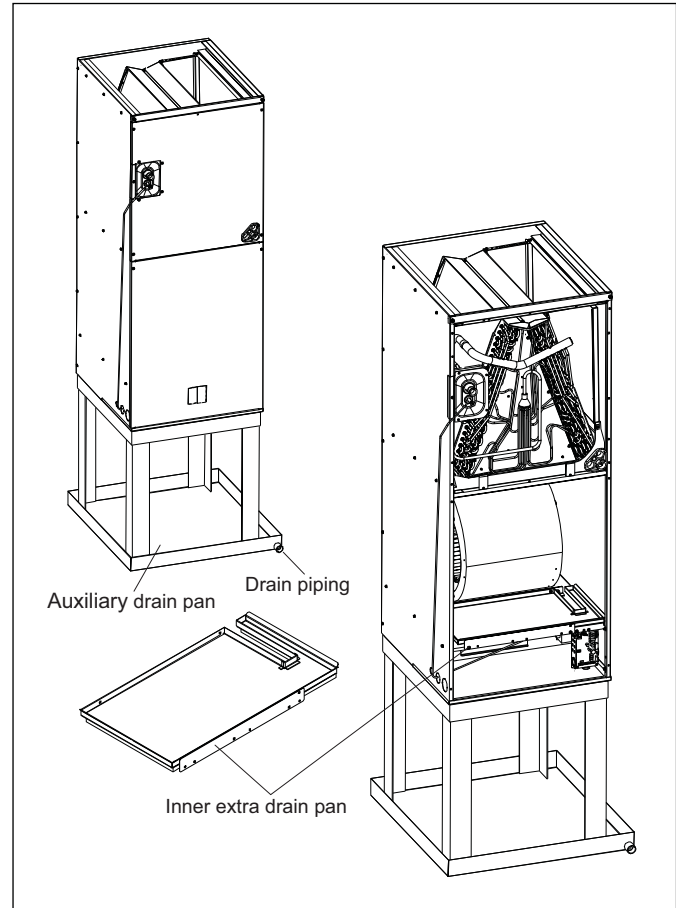

Figure 6 Installed Vertical Downflow
- Inner extra drain pan is recommended to be installed for 4 and 5 ton vertical downflow applications installed in high humidity environments. This inner extra drain pan can be ordered from the manufacturer as a spare part. Refer to Figure 6.